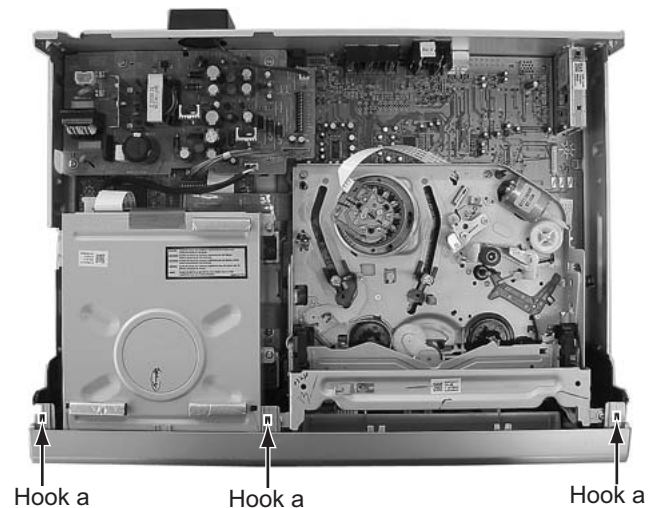

Fig.2
3.3.2 Remove the front panel assembly (See figure 2, figure 3)